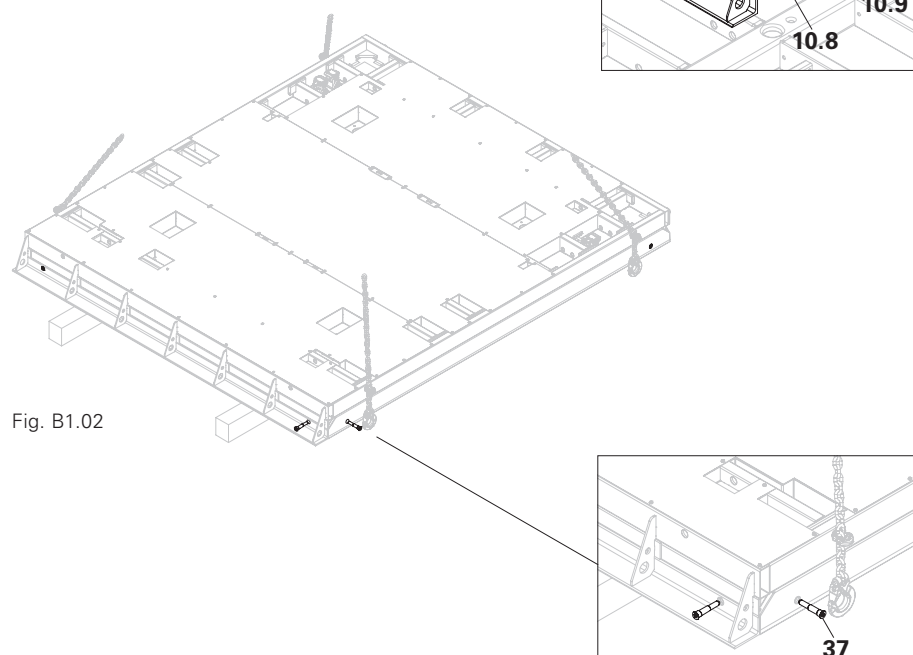

Fig. B1.02
4. At each of the 4 corners, insert 2x Fixing Bolts M14 MXH (37) through the openings of the Panel MX into the Screw-On Locking Angle (10.8) and tighten. Wrench size: Allen Key SW 10. (Fig. B1.02)